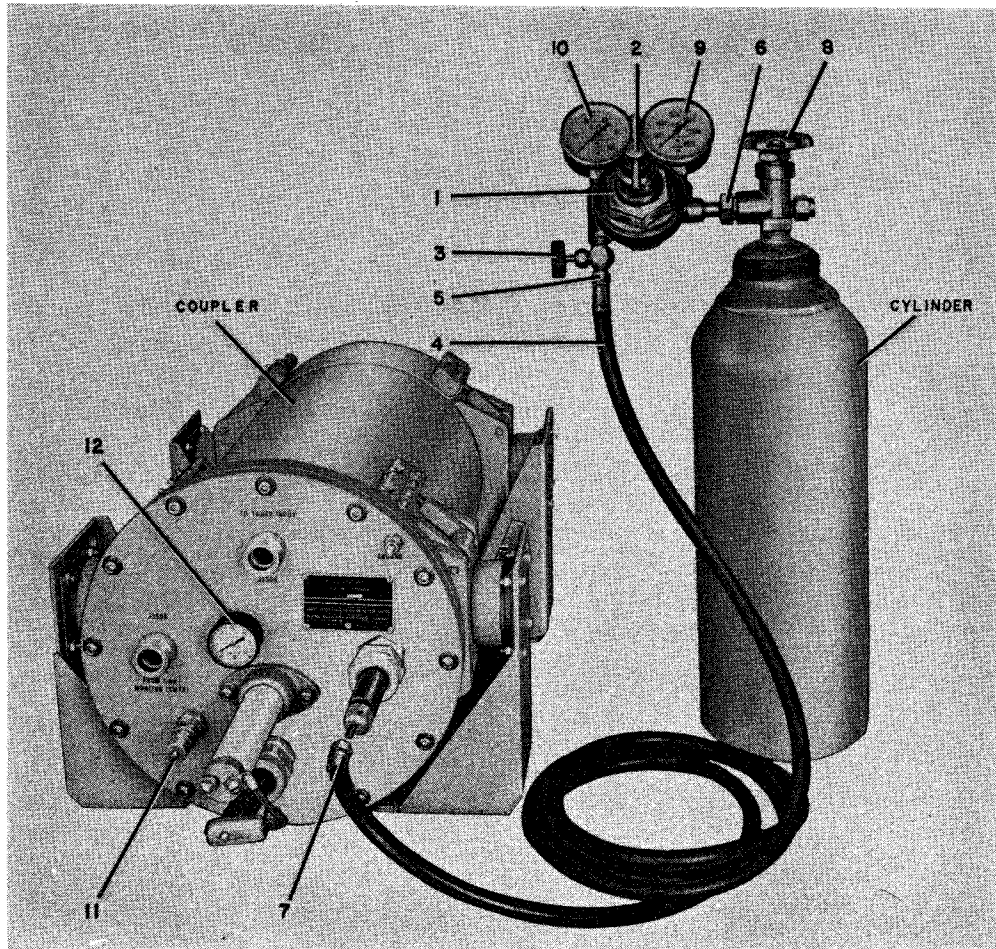

Figure 6-37. Typical Pressurizing Procedure
n. CHARGING R-F TUNER OR COUPLER. (See figure 6-37.)—When pressure in the r-f tuner or the coupler falls below 15 psi, it will be necessary to add more nitrogen to bring the pressure up to its normal 20 psi. A method for charging those units follows: